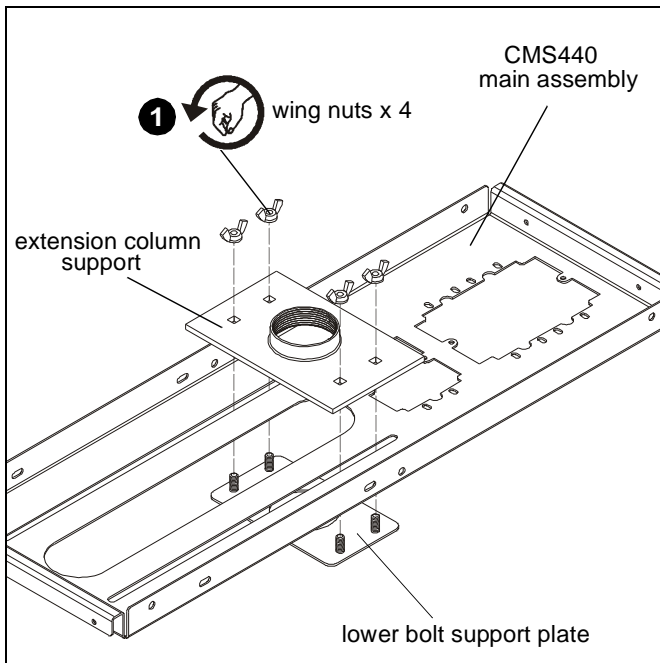

Figure 1
1. Remove four 1/4-20" wing nuts from CMS440 to release extension column support and lower bolt support plate from CMS440 assembly. (See Figure 1)